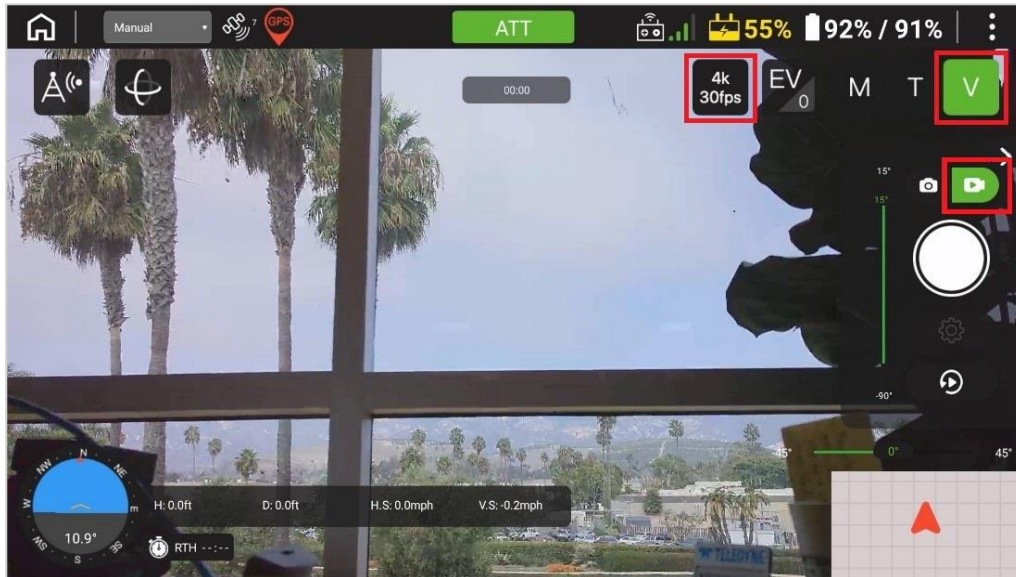

FIGURE 7.P THE VIDEO RESOLUTION ICON (VISIBLE LIGHT / VIDEO)
**Resolution + Frame Rate:** This icon (  ,  , or  ) **only** appears in Video mode. Tap it to select a combination of video resolution and frame rate. This allows you to make a tradeoff between video fidelity and file size. Figure 7.P highlights this icon and the other icons that enable it.